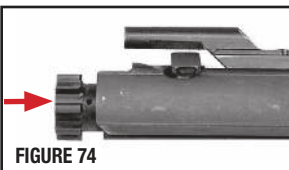

FIGURE 74
- Push the bolt back into the bolt carrier to put it in the locked position (FIGURE 74).